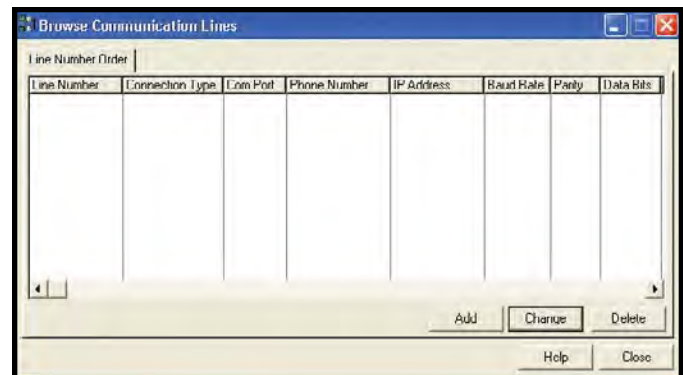

Figure 16. Out-of-the-Box™, Browse Communication Lines window
- Click the “Add” button in the “Browse Communication Lines” window (see Figure 16).